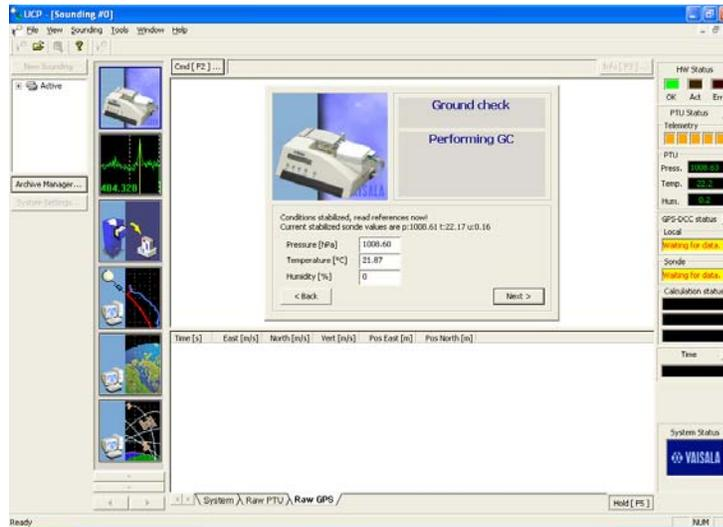

Figure 12
- 13) Wait until you see the next screen (Figure 12). The boxes for Pressure, Temperature, and Humidity will be blank in the middle window. Do the following: